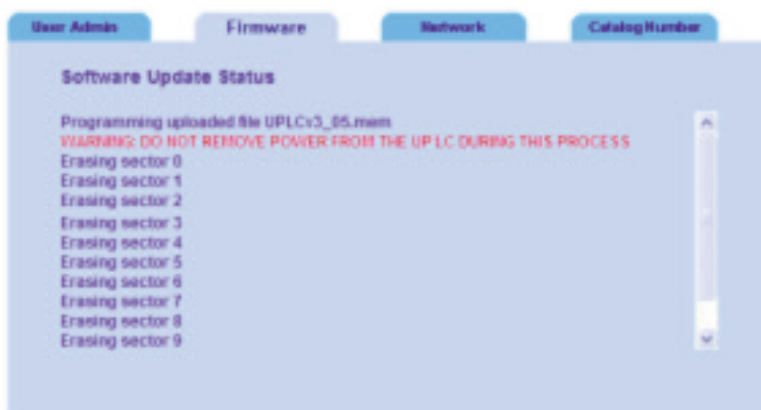

Figure G-3
10. After you have hit the “continue” button, DO NOT TURN THE UNIT OFF during this process. You should see something like Figure G-3.